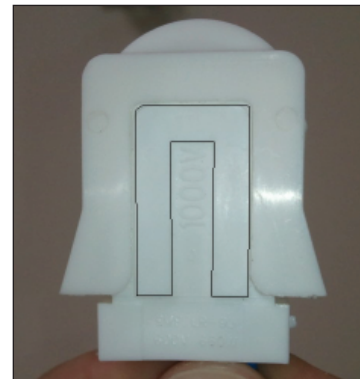

Fig. 6 Positive engagement
3. Push and snap the new T-8 lamp into place on the lamp holder. When the T-8 is properly seated, the lamp button - which secures the T-8 to the lamp holder - will be clearly visible through the lamp button hole. The cap should be pushed all the way down (Fig. 6) for positive engagement indicator. **Be sure that the T-8 light caps and holders are still positively engaged. During shipping it is possible for these to loosen.**